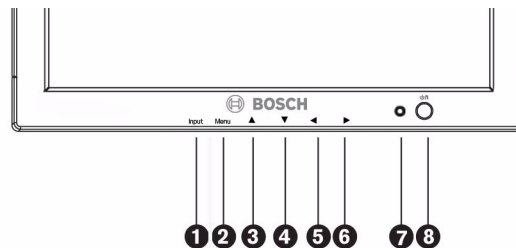

Figure 7.1 Front Panel Buttons
2. Press the Power button to turn on the unit (see *Figure 7.1*).
4. Press the Menu button to activate the main menu selections (see *Figure 7.1*).